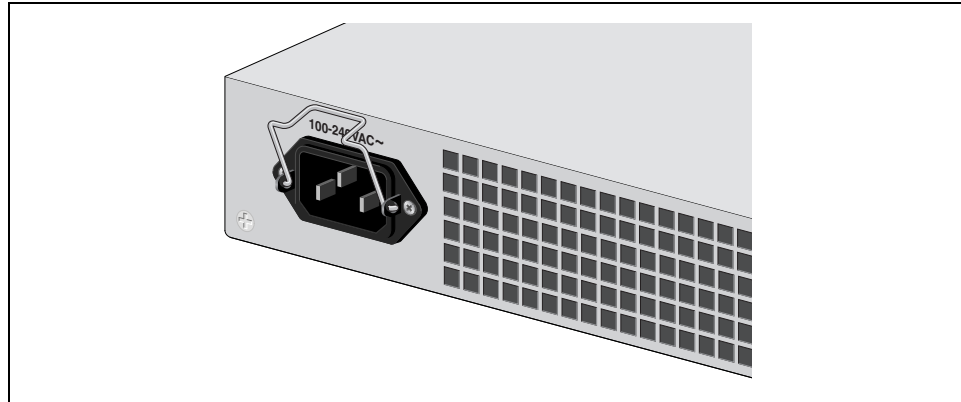

Figure 26. Power Cord Retaining Clip in the Up Position
1. Position the power cord retaining clip in the up position, as shown in Figure 26.